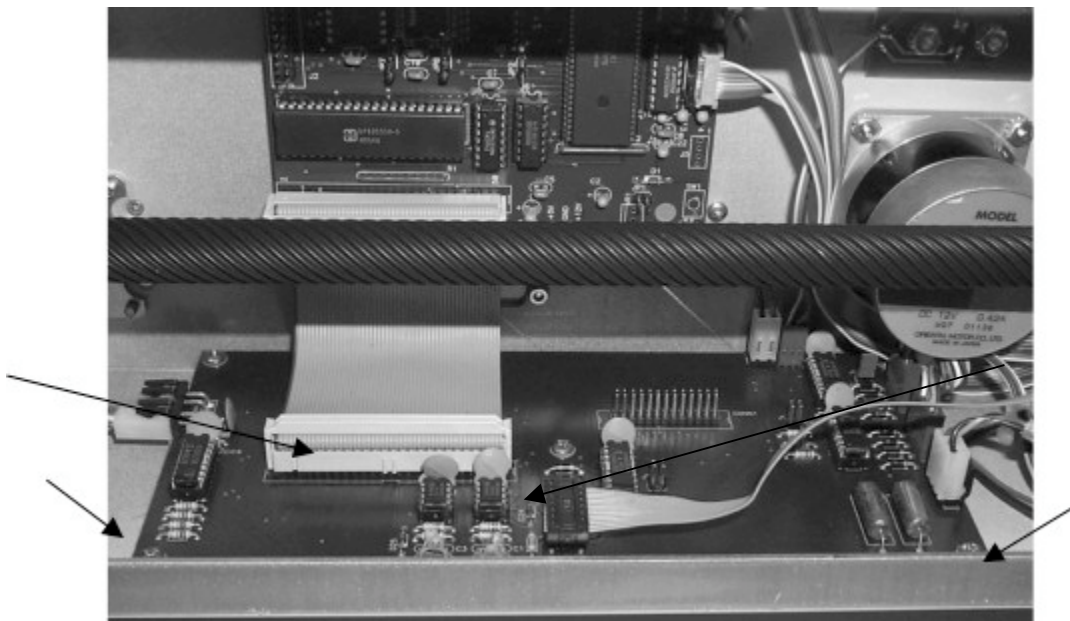

Figure 1-12. View of ASX-510 showing Main board.
9. The circuit boards are now accessible. Remove both ribbon cables that attach to the main board. The front two screws will also need to be removed. See Figure 1-12.